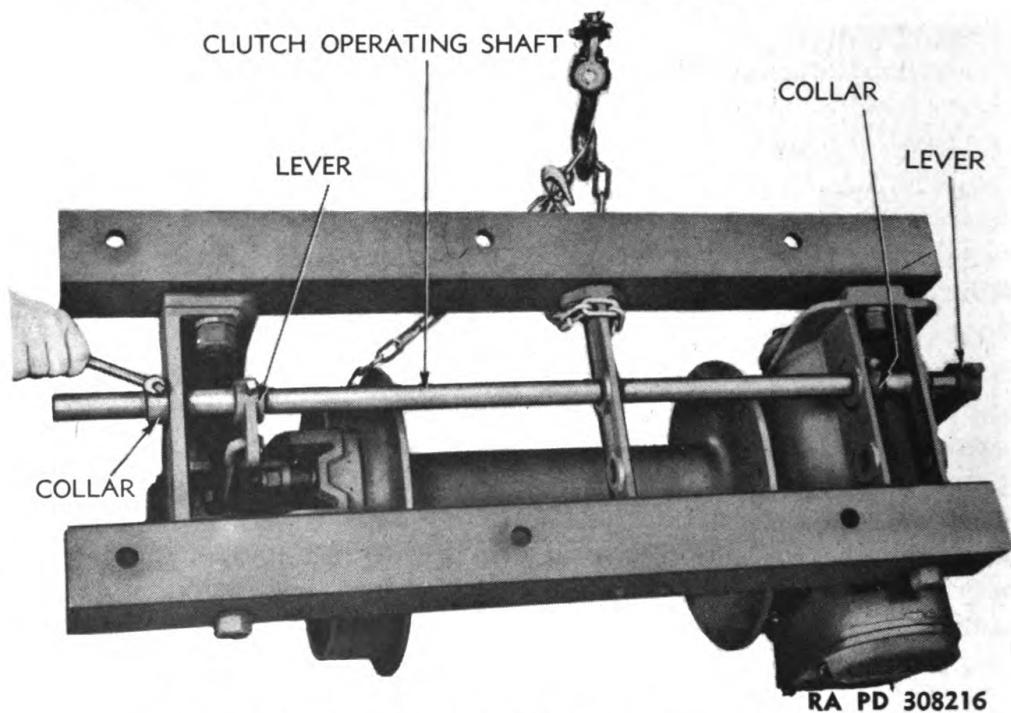

Figure 114 – Loosening Set Screw in Collar
b. Remove Clutch Operating Shaft Assembly (fig. 114). Turn winch on side with aid of chain hoist. Loosen the three set screws in the short operating lever and the two spacer collars on the clutch operating shaft. Then have one man pull out on gear case end of shaft while another taps clutch lever off opposite end of shaft. Pull shaft on out and remove collars from shaft.